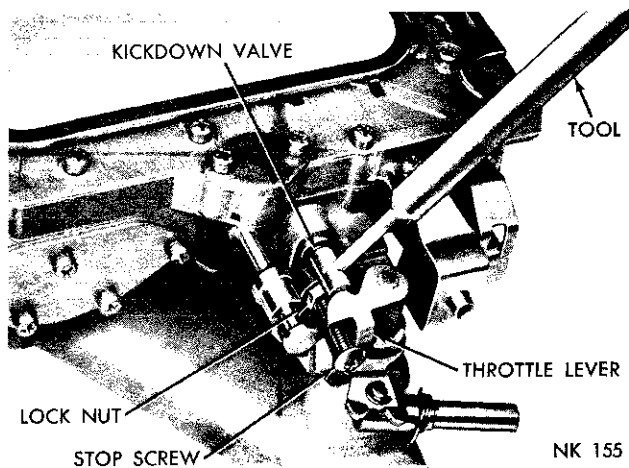

Fig. 30—Throttle Pressure Adjustment
(1) Remove the valve body assembly from the transmission to perform the adjustment. Refer to Page 63.
(2) Loosen the throttle lever stop screw lock nut and back off approximately five turns (Fig. 30).
(3) Insert the gauge pin of Tool C-3763 between the throttle lever cam and the kickdown valve.
(4) By pushing in on the tool, compress the kickdown valve against its spring so the throttle valve is completely bottomed inside the valve body.
(5) As force is being exerted to compress the spring, tighten the throttle lever stop screw finger